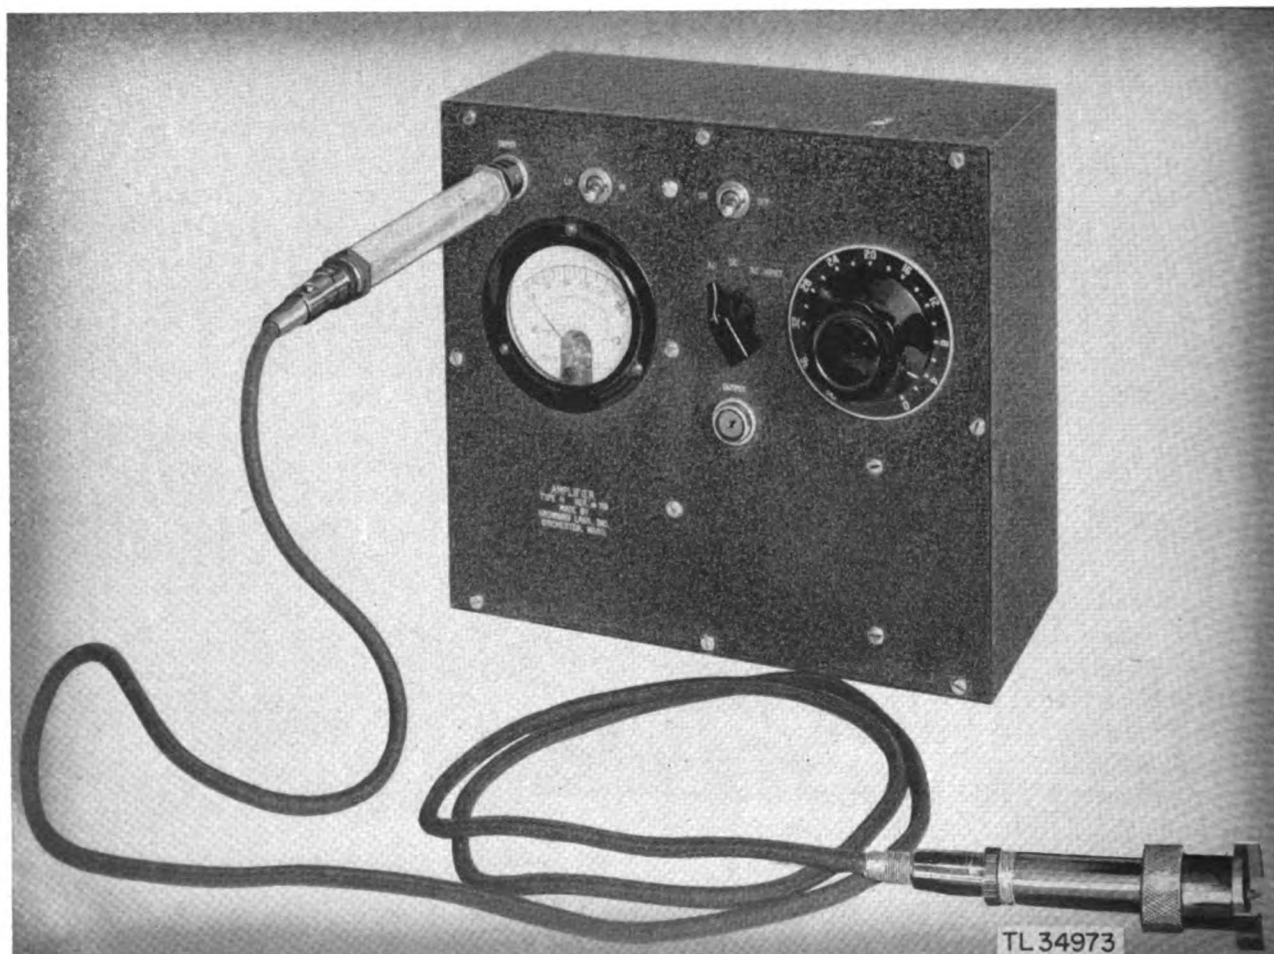

Figure 25. H-amplifier, with bolometer.
(3) Once the "peanut" neon bulb is found to glow when held close to the antenna, the next step in the check for standing waves should be taken.
b. Take the H-amplifier and bolometer out of the accessory kit. Plug the tubular end of the bolometer containing the batteries into the INPUT jack of the H-amplifier (fig. 25).